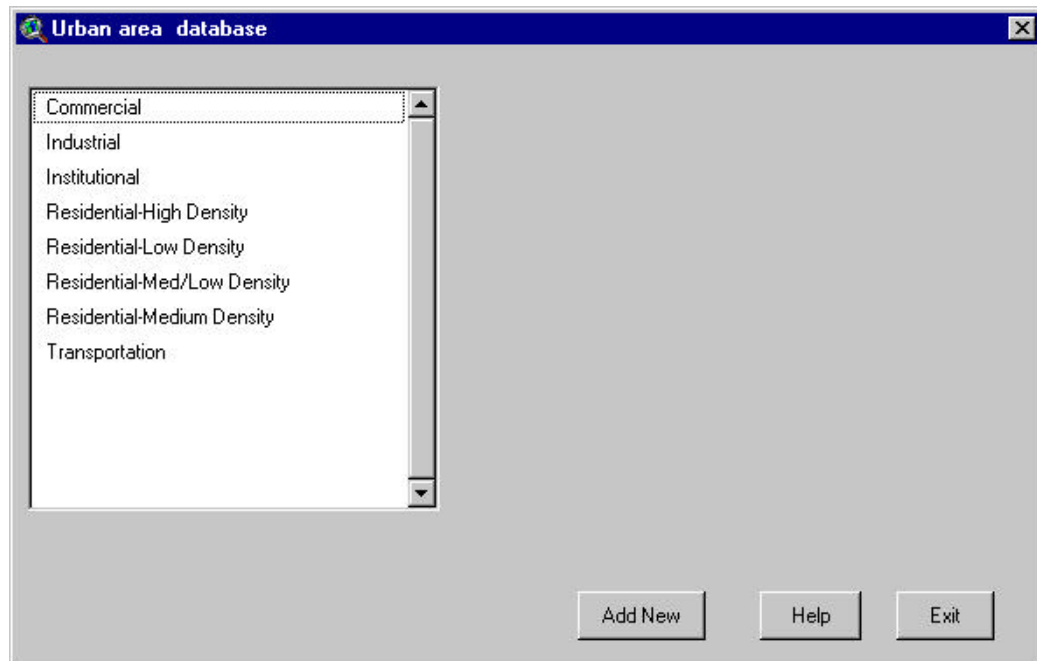

Figure 14.69
2. The Urban database dialog box will be displayed (Figure 14.69).